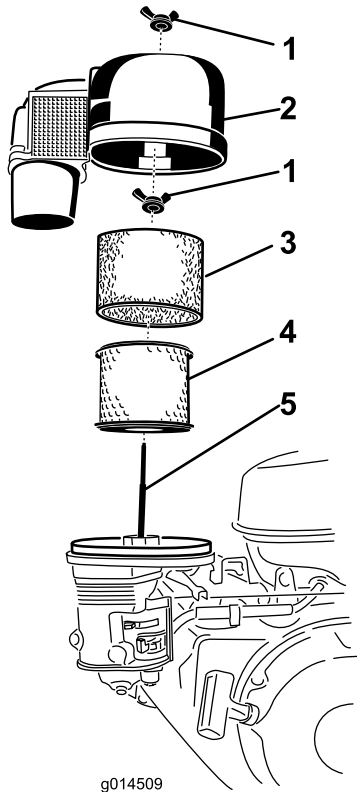

Figure 15
3. Remove the wing nut and lift off the air-cleaner cover with the air-filter cowling (Figure 15).
4. Remove the foam element (Figure 15).
5. Remove the wing nut on top of the paper element and remove the paper element (Figure 15).
1. Clean the paper element by tapping it gently to remove dust. If it is very dirty, replace the paper element with a new one (Figure 15).